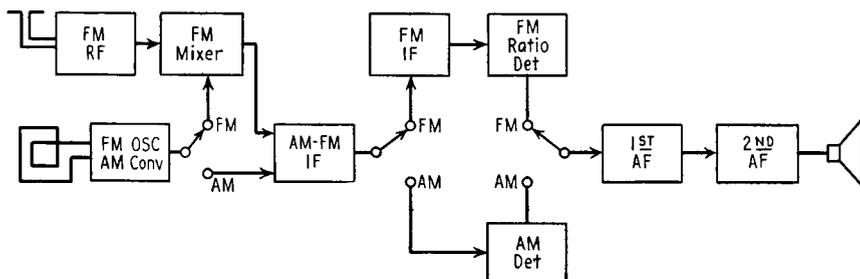

FIG. 24-16. Block diagram of a typical A-M/F-M receiver.
**The combined A-M/F-M receiver.** Many home receivers combine the A-M and F-M receivers in one unit, with a switching arrangement for function selection. The block diagram of such a setup is shown in Fig. 24-16. There are many other variations. Sometimes a separate A-M converter tube is used and the F-M section uses separate oscillator and
mixer tubes. Sometimes separate IF tubes are used for the A-M and F-M functions. In other sets, one tube serves as an A-M converter and an F-M oscillator with a separate F-M mixer tube. The block diagram in Fig. 24-16 has been chosen because it shows some interesting points.